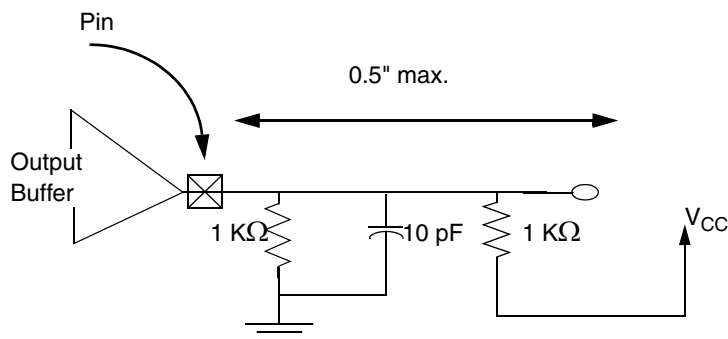

Figure 9-12. Testing Setup for Slew Rate and Minimum Timing
- Note 3. Rise slew rate does not apply to open-drain outputs. This parameter is interpreted as the cumulative edge rate across the specified range, according to the test circuit in Figure 9-12.